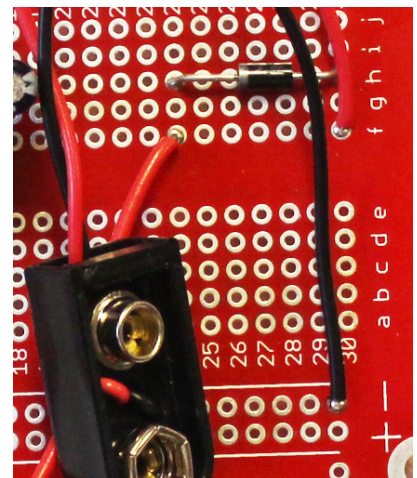

Figure 9
9. Solder the 9 volt battery strap to board. The red wire to hole f30 and black wire to last hole to right of bottom negative power bus (see Figure 9).